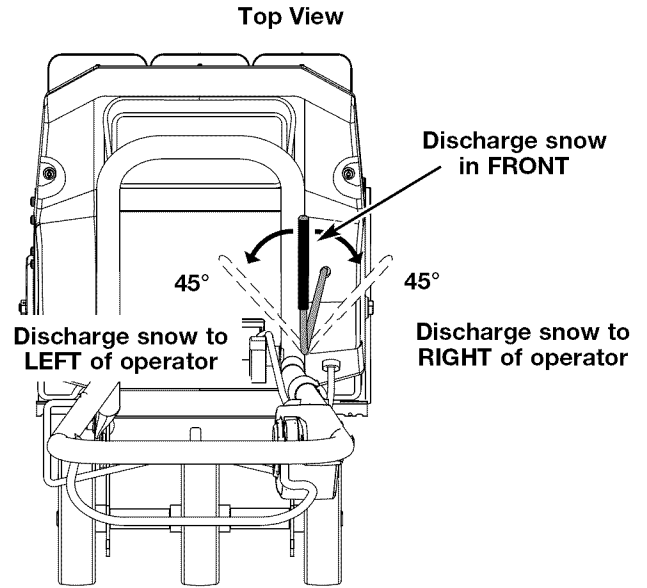

Fig. 8
3. Turn the discharge directional control to the left, the center or the right, depending on which direction you want to throw the snow (Fig. 8).
- If you are transporting the unit with the handles folded, be careful not to make contact and accidentally bend the discharge directional control (Fig. 8). If you bend or damage the control, you can no longer adjust the vanes.